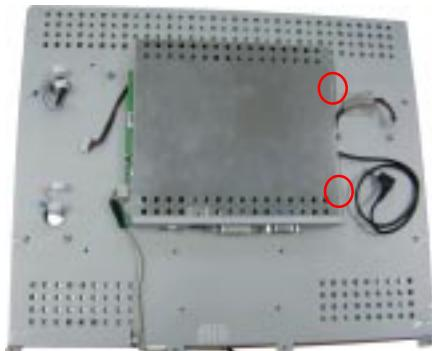
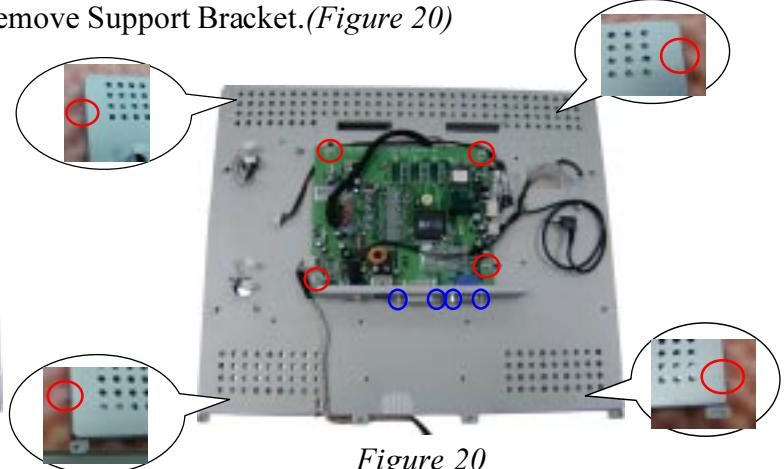

Figure 19
Figure 20
1. Unscrew the two screws to remove the Bracket (*Figure 19*), unplug all connectors unscrew the four hex screws of Main Board and the four screws to remove the Main Board. (*Figure 20*)
2. Unscrew the four screws and remove Support Bracket. (*Figure 20*)